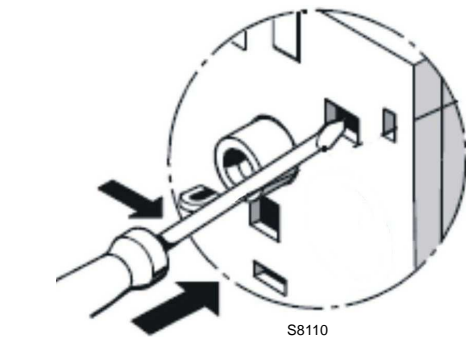

Fig. 28
- To test the thermal relay, insert a screwdriver in the window “TEST” (Fig. 28) and move it in the sense of the arrow (towards right).
- **Contact test NC (95-96) and NO (97-98)(Fig. 28)**